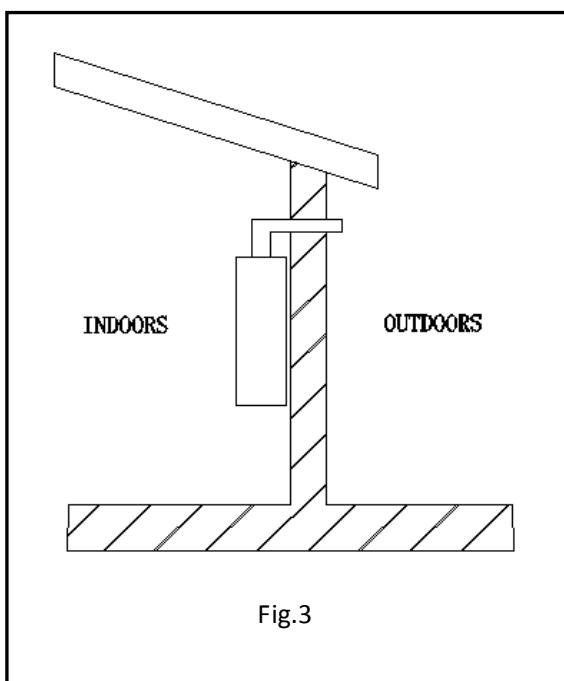

Fig.3
- The flue of the gas water heater should be installed through an external wall, the heater cannot be installed in outdoors. (Fig.3)